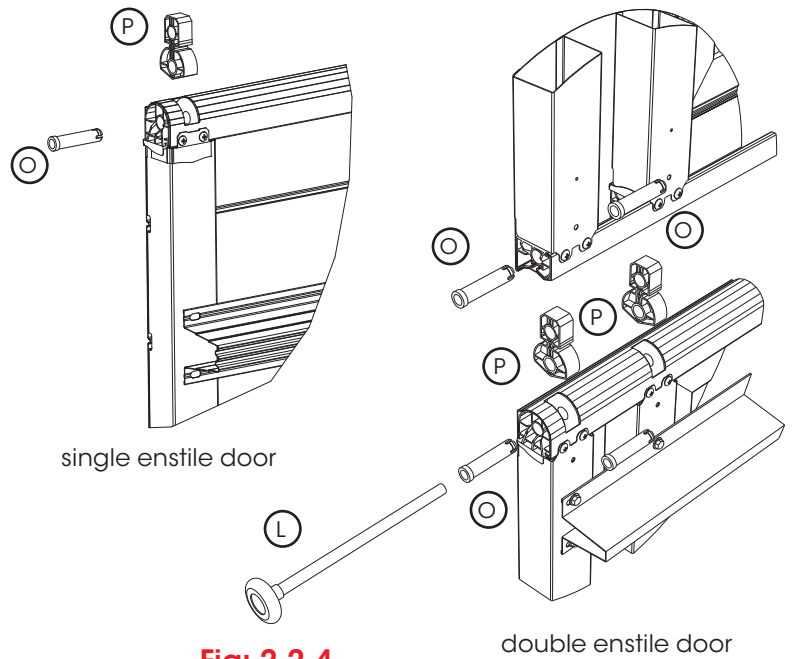

Fig: 2.2.4
g) Insert the polyethylene hinge links (P) or Insul-Shield™ (refer to appendix) into the recesses of the top of the panel and fix into place using the white hinge pins (O). Fig 2.2.4.